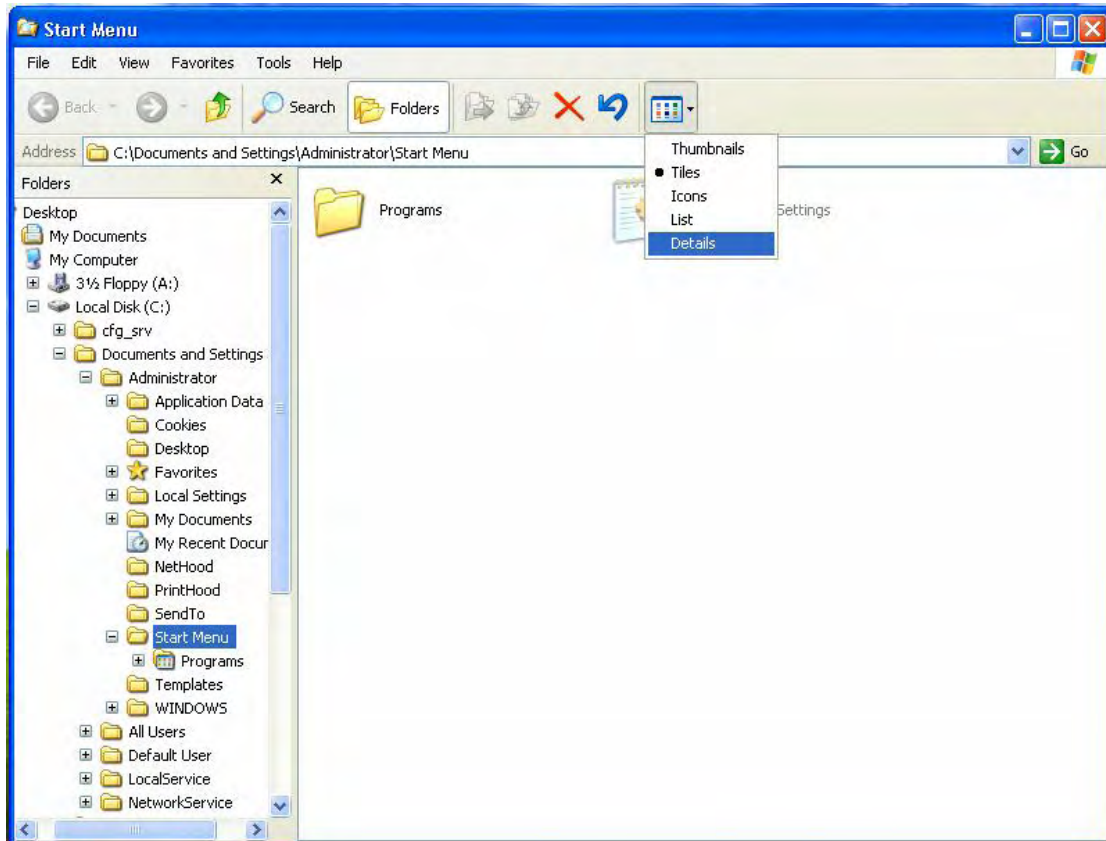

Figure 1-61. Explorer Window Select View Details
2. Click once on the **View** icon on the "Windows Explorer" menu bar. The "View" pull-down menu is displayed. Select **Details** (Figure 1-61).